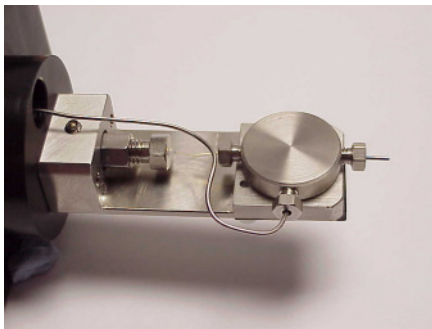

Figure 8-19 Reconnecting the Nebulizing Gas
- d. Reconnect the nebulizing gas tube and retighten the nut (Figure 8-19).
- f. Reconnect the gas and lines (Figure 8-19).